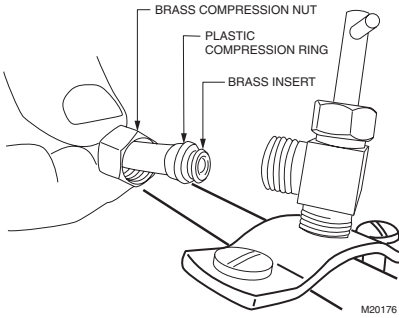

Fig. 6. Installing feed tubing.
3. Use 1/4 in. (6 mm) OD tubing and connect the saddle valve to the inlet side of the solenoid valve (see Fig. 6).